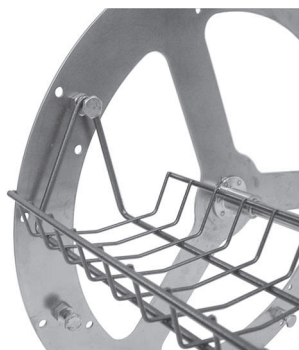

Fig. 16
1. Hang the left end of a Rack or Basket on a stud on the left side of the rotor (Fig. 16).